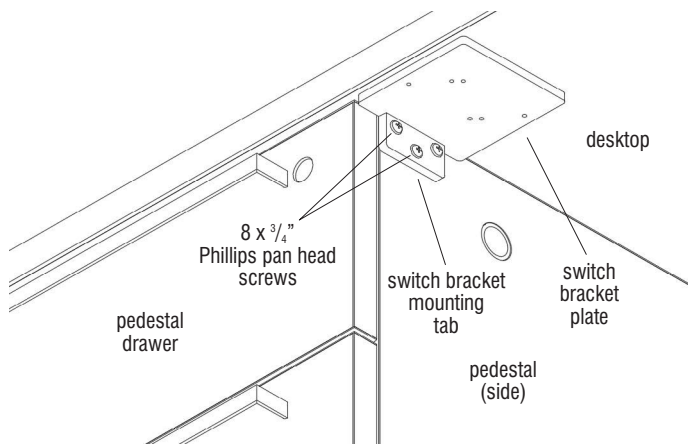

Figure 5
1. Position the switch bracket plate under the front, user side of the desktop, with the switch bracket mounting tab against the pedestal and straight, making sure the switch bracket is no higher than the top of the pedestal, and positioned to be flush with the front edge of the pedestal drawer face (Figure 5).
2. Using the correctly positioned switch bracket as a template, mark the three mounting tab hole locations to the side of the pedestal, then move the switch bracket away. Using a cordless power drill and a 1/32" drill bit, carefully bore three holes at the center of the marked locations on the pedestal side (Figure 5).
3. Align the mounting holes of the switch bracket mounting tab with the pre-drilled holes on the side of the pedestal and secure using three #8 x 3/4" Phillips pan head screws. Take care not to over tighten (Figure 5).